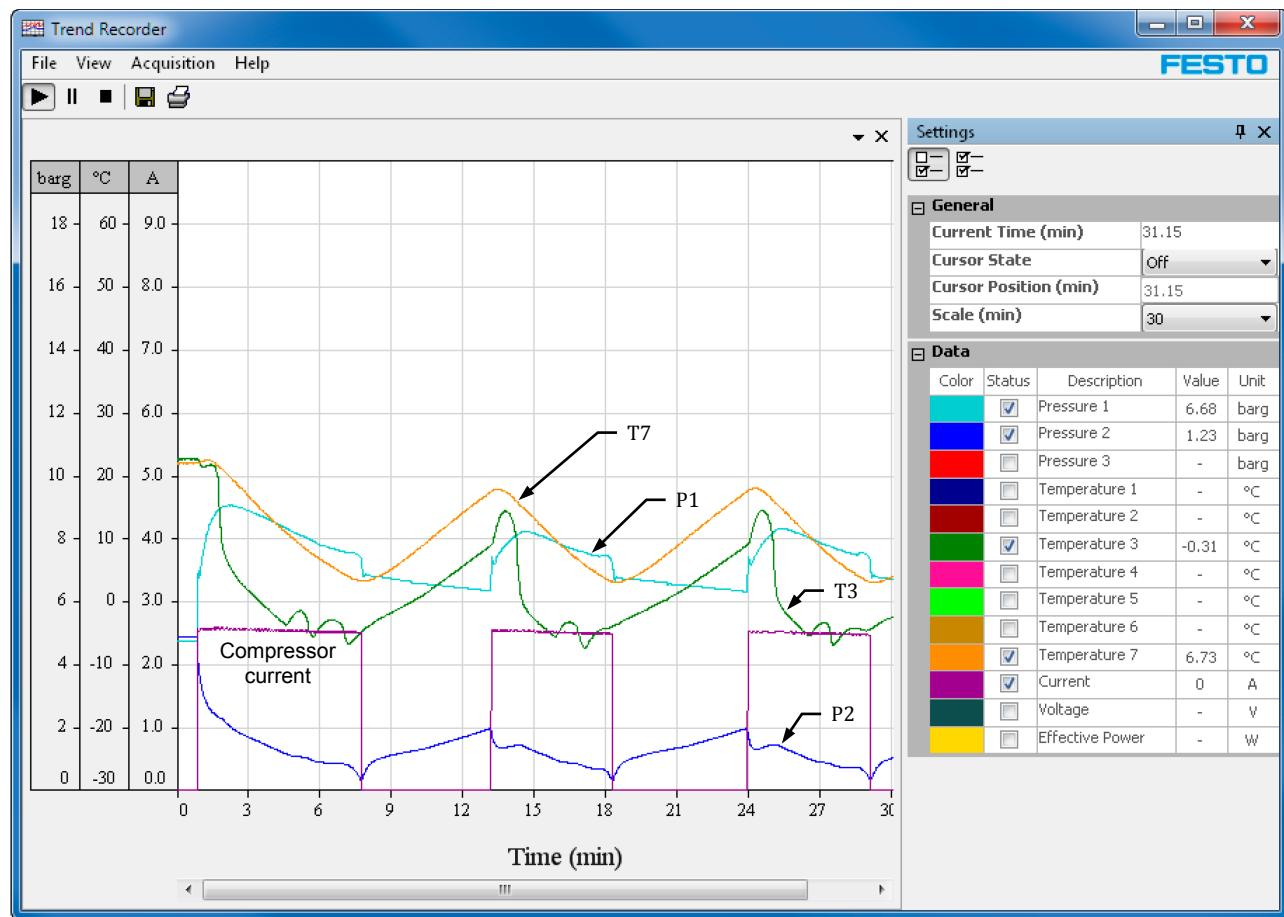

Figure 30. Trend Recorder of the LVHVC software displaying selected variables as a function of time.
2. Activate the Trend Recorder of the LVHVAC software: in the menu bar of this software, select the *Tools* menu, and then select the *Trend Recorder* option. This brings up the Trend Recorder, as Figure 30 shows (without the signals displayed in this figure, since the recorder has not been started yet):